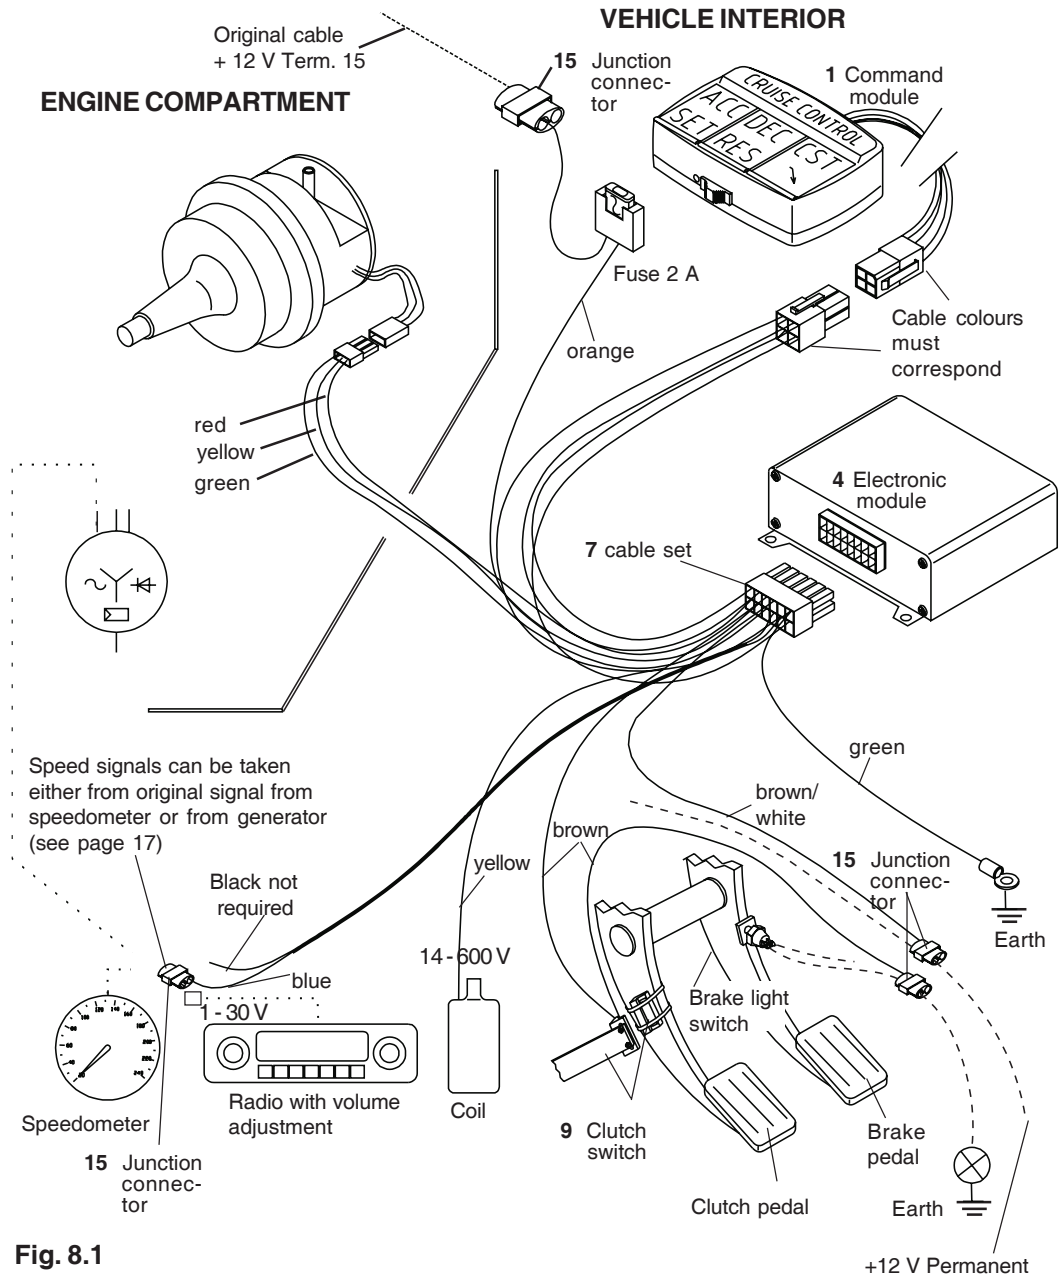

Fig. 8.1
12. Connect the orange cable with the fuse block to + 12 V terminal 15 (ignition current), using the junction connector (15).
13. Connect the 2-wire cable (with brown and brown/white wires) by junction connector to the brake light switch (see Fig. 8.1). In the case of vehicles with manual gearbox, the clutch switch must also be installed and connected (see Chapter 9).
14. Using the 4-pin connector (3), connect the command module to the electronic module, ensuring connection of matching cable colours (see Chapter 10).
Vehicles with manual gearbox must be fitted with a clutch switch (9). The clutch switch consists of a magnet and a reed contact switch. The magnet is cemented on to the clutch pedal and secured with cable ribbons. The reed contact switch is mounted on the chassis or the buffer for the clutch. The clutch switch (9) is connected as shown in the diagram on page 13 and 14 (Fig. 8.1 and 8.2). The magnet and the reed contact switch must be separated when the clutch is operated.